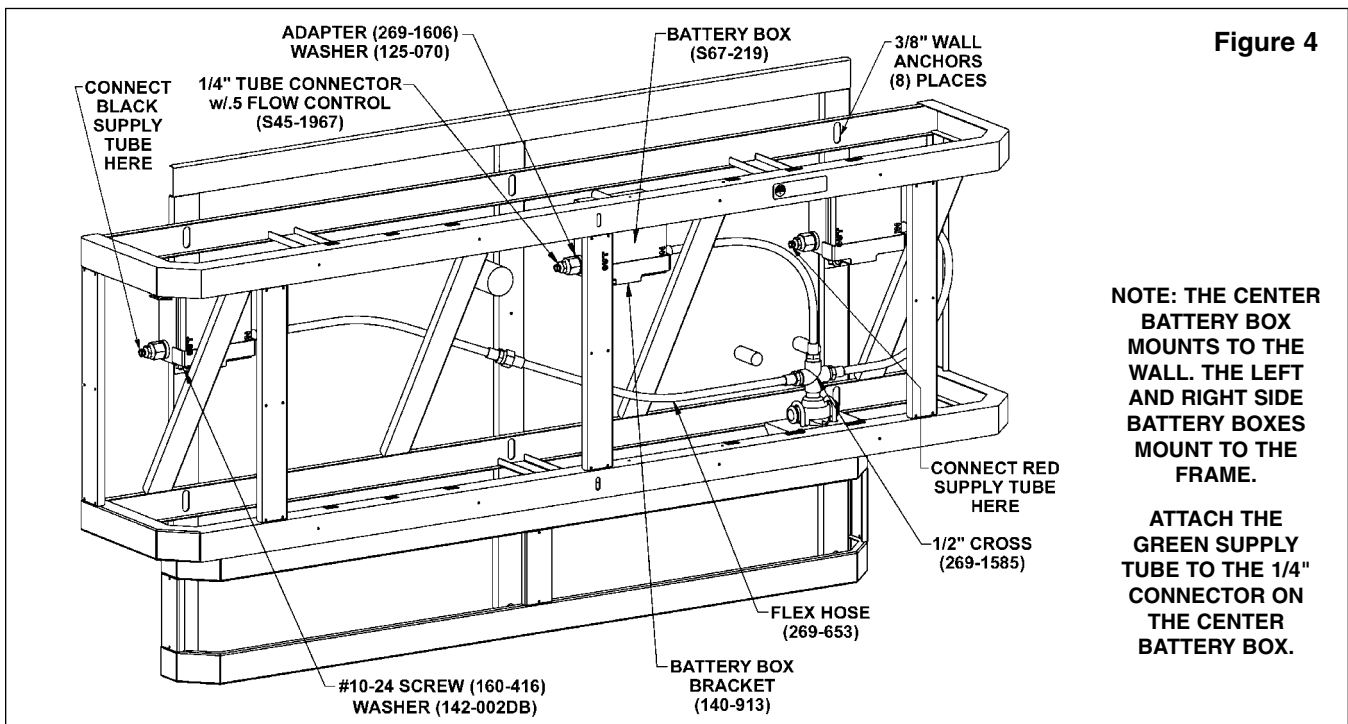

Figure 4
2. Attach the battery box bracket to the frame at two places using the #10-24 screw and washer provided (see Figure 4). Attach the center battery box bracket to the wall at the 1/4" wall anchor with a suitable 1/4" bolt and washer (anchor and hardware provided by installer).
4. Once you have positioned the frame such that it is level and flat against the wall or shimmed, use eight 3/8" bolts and washers (supplied by installer) to mount the frame to the wall anchors (see Figure 4).
1. With someone to assist you, rest the back of the bowl/sprayhead assembly onto the front of the frame. Remove the battery boxes from the bowl basin and place them into the battery box brackets mounted to the frame (see Figure 4 on page 7 for correct positioning of the battery boxes).
5. HOT/COLD VERNATHERM™ OPTION ONLY: Attach the 1/2" cross to the Vernatherm™ assembly using a thread sealer (see Figure 4 on page 7).
6. Attach the male end of the 1/2" flexible hose to the 1/2" cross using a thread sealer. Attach the female end of the 1/2" flexible hose to the battery box using the fiber washer attached to the hose (see Figure 4 on page 7).
7. Attach the 1/4" supply tubes from the sprayhead to the battery box's 1/4" connector fitting. Make sure the black color supply tube goes to the left side battery box, the green tube goes to the center box and the red tube goes to the right side box (see Figure 4 on page 7).